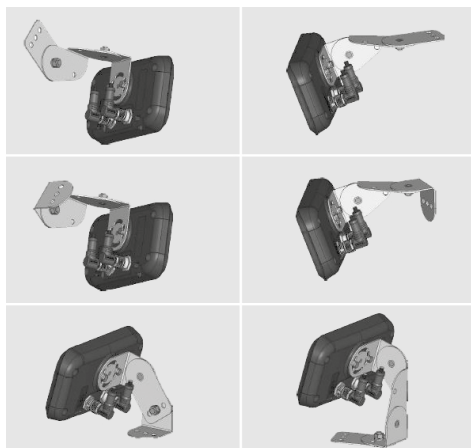

Figure 1: Bracket configurations
2.2 The bracket can be assembled in various ways to allow a multitude of mounting configurations (see Figure 1).